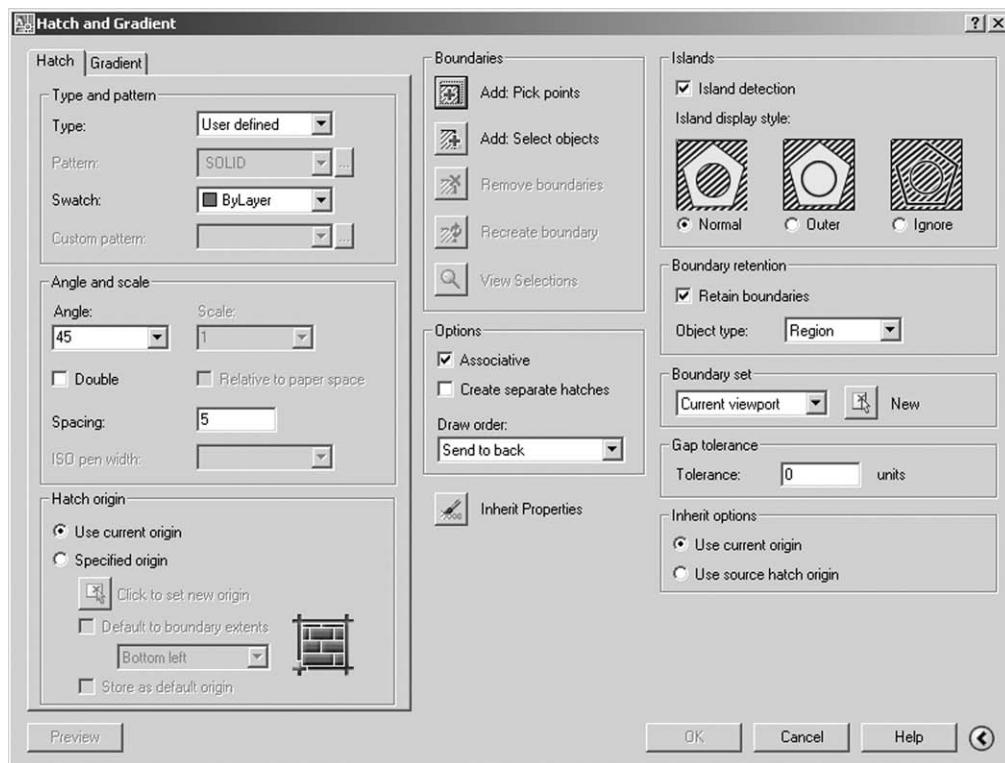

Figure 18.2 The Hatch and Gradient dialogue box.
- j) leave other parameters – Figure 18.2